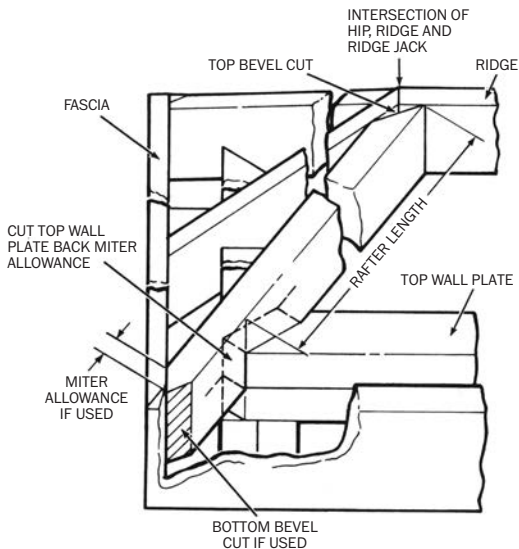
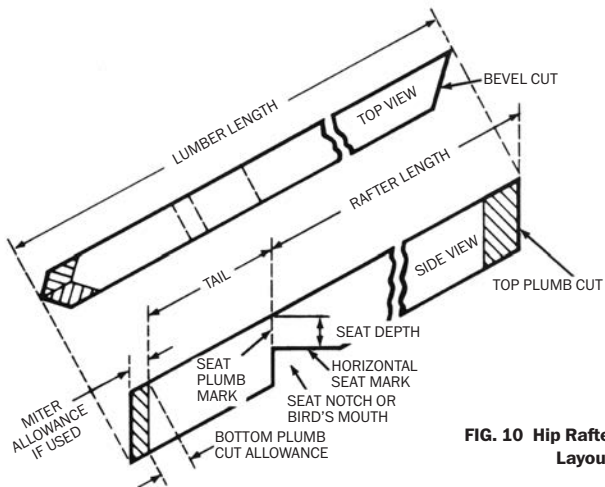

FIG. 9 View of Hip Rafter Layout.
FIG. 10 Hip Rafter Layout.
NOTE: If a miter is desired, add for hip or val miter allowance from the tables (see Figures 10 and 13).
STEP 1. TOP PLUMB CUT: The square is used in the same manner as in Step 1 of the common rafter top plumb cut. But now, read the Inch-Rise on the Hip-Val scale instead. Remember that the top plumb cut is a bevel cut and that opposite rafters will have opposite bevel cuts (see Figures 9 and 10). Therefore when placing the square on the rafter, place it on the long side of the bevel (the bevel cut will be explained in Step 4).
STEP 2. SEAT NOTCH: Measure the rafter length down along the top of the rafter and make the seat plumb mark in the same manner as you did for the common rafter (in our example it is 20' 3-7/8"). Next, measure along the seat plumb mark the seat depth and using the dashed line on the square, draw a perpendicular line for the horizontal seat mark (see Figure 10). Be sure all horizontal cuts for all rafters are the same distance from the top edge of the rafter at the wall line. For the proper fit of the hip rafter, cut the top wall plate corner off (as shown in Figure 9). This allows Hip seat notch to set in against a full flat corner, rather than against an outside point.
the bottom plumb mark. If a tail miter is used, make another plumb mark on the other side of the rafter just opposite of the bottom plumb mark (see Figure 10).
STEP 4. CUTTING HIP RAFTER PATTERN: With your saw set at 45° , cut the top plumb cut, making sure the top bevels are opposite for opposite rafters. Setting the saw at 45° automatically gives the plumb cut and the side cut bevel. Make bottom plumb cut on a 45° angle if miter is used. If a bevel is not needed, set saw at 90° . The seat notch is made with the saw at 90° (see Figures 9 and 10).
Making sure your walls are straight, place top end of common rafter even with top of ridge. Now mark across top of ridge (as shown). This mark will be the center of the two intersecting hips. If a common rafter is to be used, the ridge will be cut off at this mark and the common rafter butted up against it (see Figure 9). If no common rafter will be used, cut the ridge about 2" longer. This will allow you to nail through the ridge into the hip.